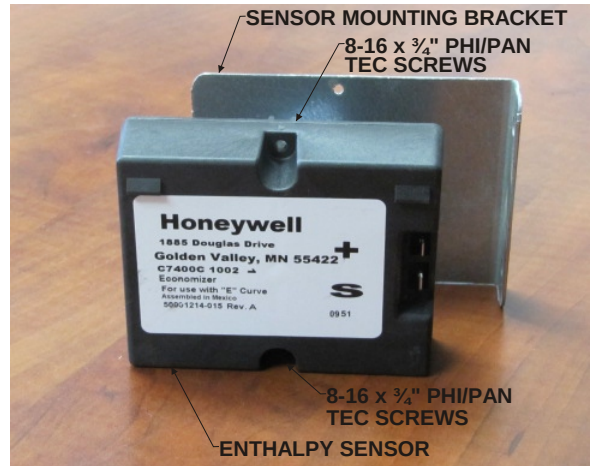

Figure 1: Mounting the Sensor to the Bracket
3. Mount the sensor to the mounting bracket (refer to Figure 1 for the proper bracket orientation) using the two No. 6-20 thread-forming screws (provided).